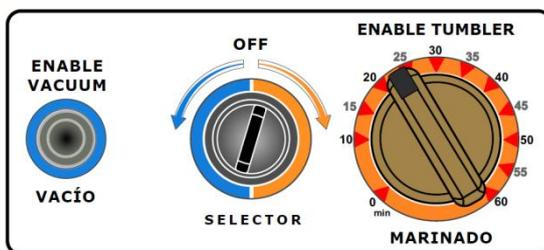

FIG. 3 CONTROL PANEL
- 5.- Turn the selector knob to “ENABLE VACUUM” position (Fig. 3). The recommended level for a good product is between 12inHg and 15inHg (40KPa and 50KPa respectively):
- 6.- Press the “ENABLE VACUUM” button (located at the left of the selector knob) to start the vacuum cycle (Fig. 3).
10.- Turn the selector knob (Fig. 3) to “ENABLE TUMBLER” position in order to activate the timer.
a) Adjust the knob of the timer (fig. 3) in order to set the desired time (marinating cycle) according to the product that will be processed.